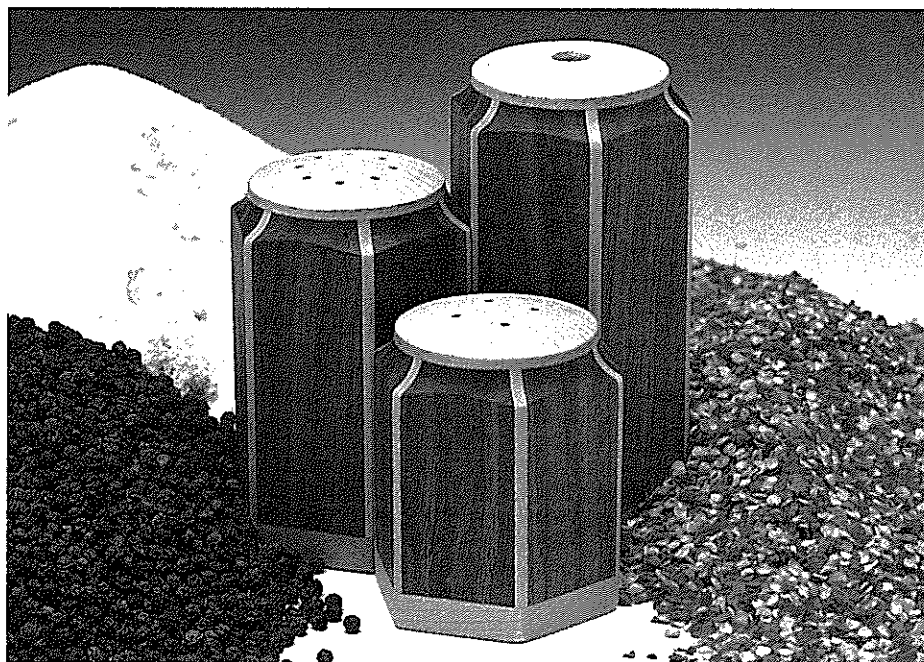

FIGURE 1
**TOP.** The top for the turning jig starts out as a single thickness of  $\frac{1}{4}$ " Masonite, see Fig. 1. First, bore a  $1\frac{1}{4}$ " hole centered 8" from the front for the router bit. Then glue and screw the top to the box frame.
**THREADS.** The adjustment rod threads into a T-nut that's mounted in the support brace (A), see Fig. 1. To position the hole for the T-nut, push the sliding center into position so the block is against the brace (A). Next, bore a  $\frac{3}{8}$ " hole through the brace using the hole in the block for alignment. Then mount a  $\frac{3}{8}$ " T-nut on the back of the brace with the threaded section projecting inside the box, see Detail A, Fig. 1.
The bodies for all three shakers start as one hexagonal tube. To make this tube, begin by ripping six 10 $\frac{1}{4}$ "-long strips from  $\frac{1}{2}$ "-thick stock, see Fig. 1. Then bevel rip both edges of the strips so the outside face (point to point) is 1 $\frac{3}{16}$ " wide. (See page 4 for details on bevel ripping.)
**CUT TO SIZE.** Now the shakers can be cut to length, see Fig. 1.